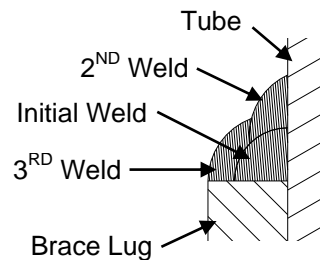

Figure 2
Step 4) Place an initial weld around both brace lugs as shown in figure 2, starting as shown in figure 3. Use a 1/4"x1/4" fillet weld to attach the brace lugs to the upper tube.
Step 5) Add the 2nd weld around both brace lugs, as shown in figure 2. Again use a 1/4" x 1/4" fillet weld and start as shown in figure 3.
Step 6) Finally, add a 3rd weld around both brace lugs, starting as shown in figure 3, between the brace lug and weld added in step 5, shown in figure 2.